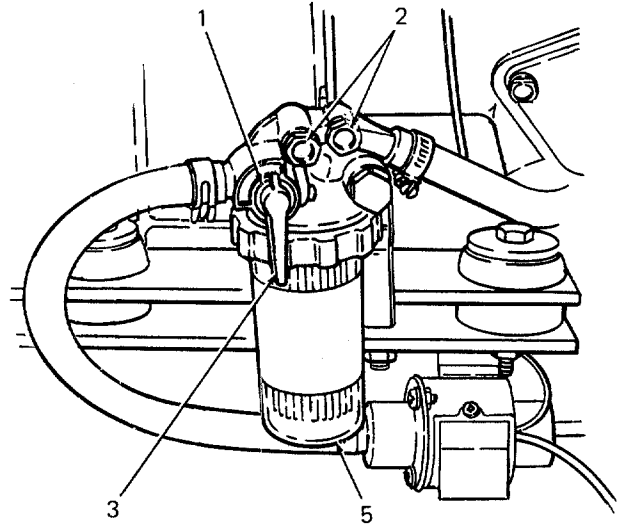

Figure 34
1. Fill the fuel tank. Open the fuel shut-off valve. (See Figures 34 and 35.)
1. Close the fuel filter cup shut-off valve. (See Figures 34 and 35.)